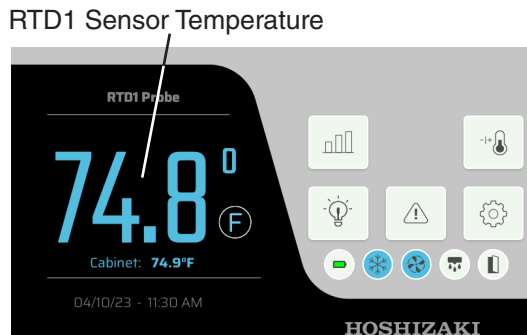

Fig. 3
- Press and release anywhere on the screen. The touchscreen setup view is shown. See Fig. 3.